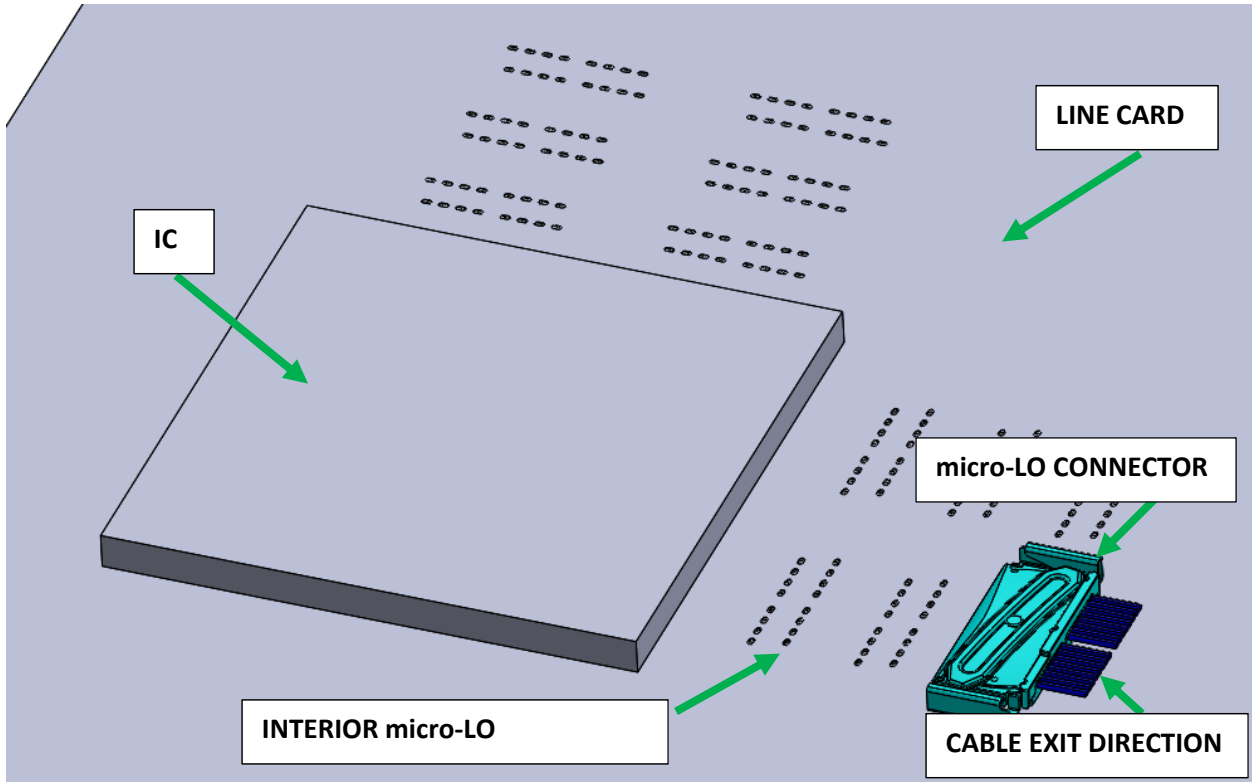
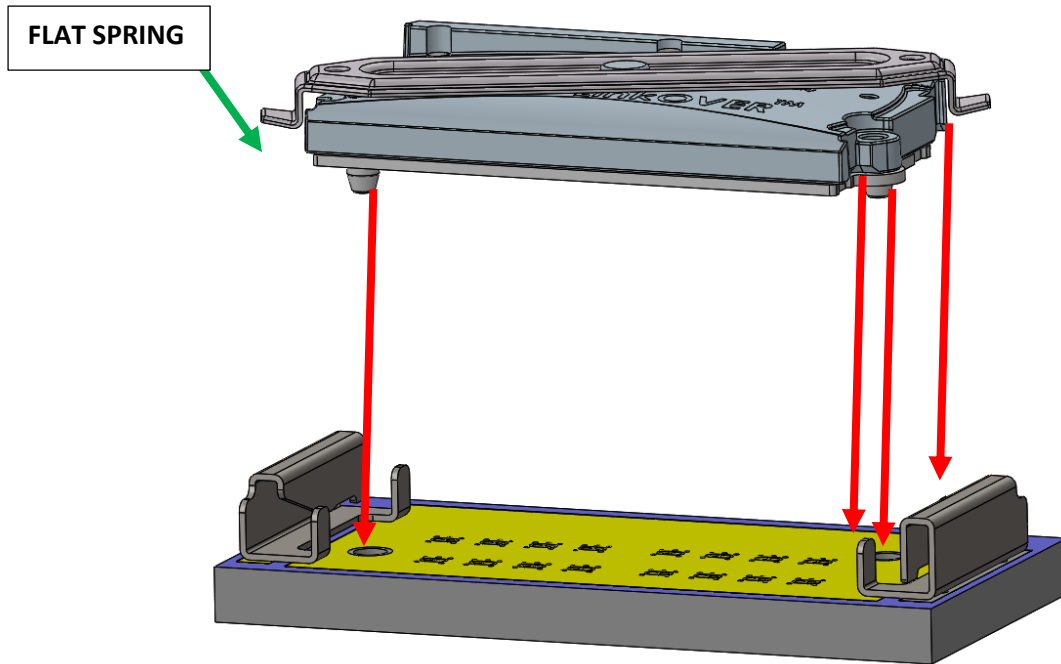

FIGURE 12: ORIENTATION OF INSTALLED CONNECTOR WITH RESPECT TO IC
FIGURE 13: SEATING CONNECTOR ON SMT ANCHORS
Manually align the connector with the anchors being sure the cables are exiting in the correct direction, as shown in **Figure 12** and **Figure 13**. The twinax cables typically exit away from the soldered-down or socketed integrated circuit (IC). If installing multiple connectors in rows, begin with the rows farthest away from the IC. The flat spring should be rotated to its furthest counterclockwise position. Align the anchor tabs with the tab slots in the connector and push the connector down until the alignment posts enter their corresponding holes on the board.